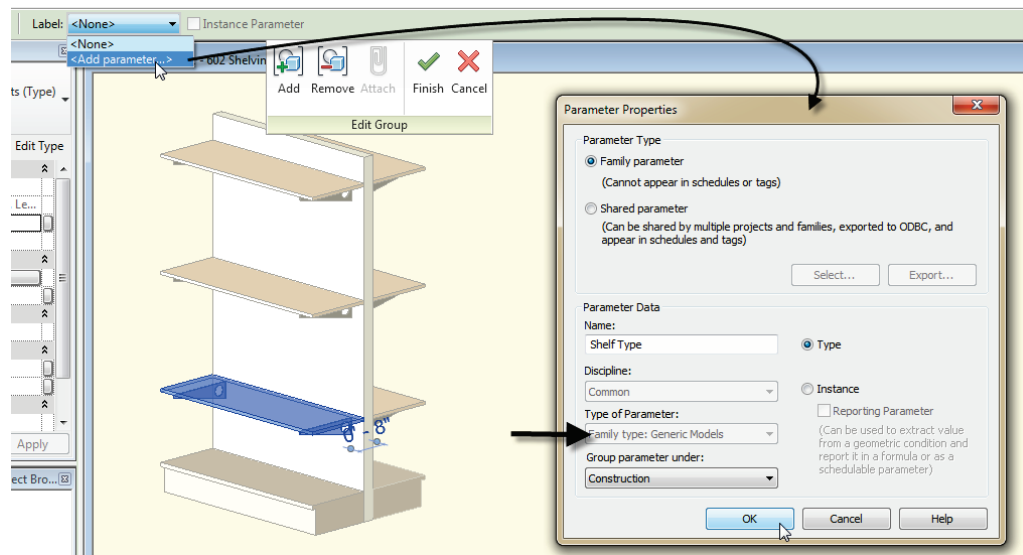

Figure 23—Create a new <Family Types> parameter
5. Call it **Shelf Type**, make it a **Type** parameter and group it under **Construction** (see Figure 23). *If an error appears about constraints, click Remove Constraints.*